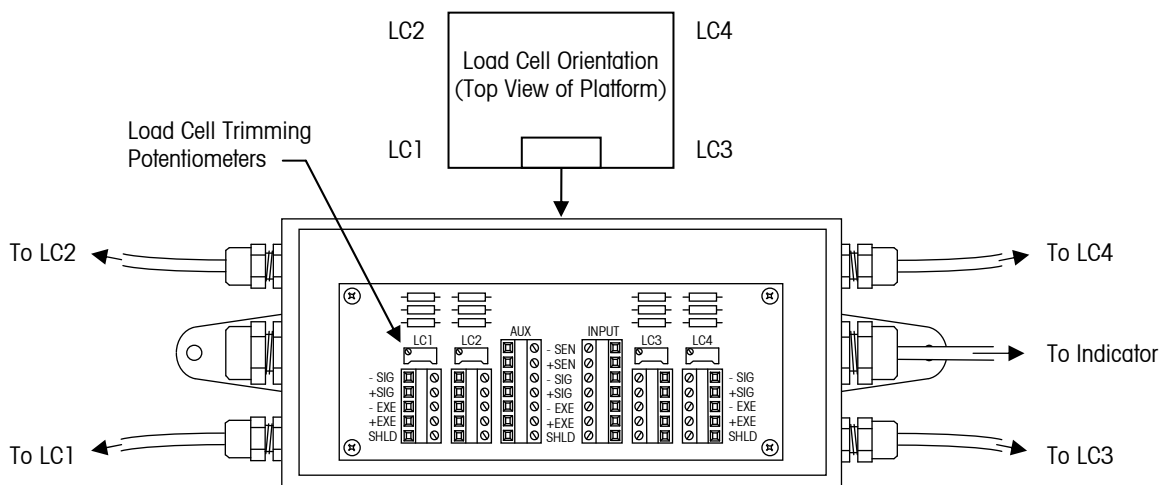

Figure 4-2: Load Cell Trimming Potentiometers
3. Place the test weight at the location immediately clockwise from the location at which you got the lowest weight reading. Then adjust the trimming potentiometer for the load cell that corresponds to the corner of the scale where the test weight is positioned (see Figure 4-2). Make the adjustment by turning the potentiometer until the weight reading matches the lowest reading.